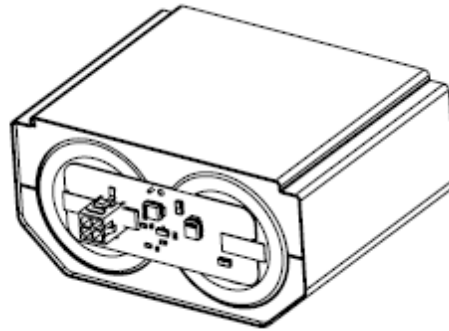

Figure 4 Battery Pack Assembly
- 4) The battery pack for the ARTEX ELT 345 consists of two "D" size Lithium Manganese Dioxide cells (see Figure 4).